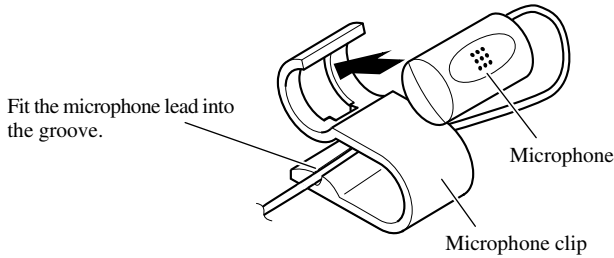

Fig. 18
1. Install the microphone on the microphone clip. (Fig. 18)